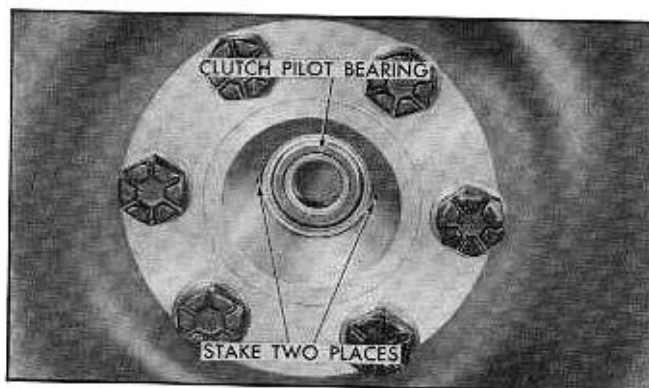

Fig. 6-36 Staking to Retain Clutch Pilot Bearing
3. If clutch pilot bearing is to be replaced, use cold chisel to remove staking in end of crankshaft which keeps bearing in place when transmission is removed (Fig. 6-36). Remove clutch pilot bearing from hole in crankshaft.
If bearing is a snug fit in crankshaft, use puller J-4383 and Slide Hammer J-2619-A or J-942 to remove bearing. When installing new bearing see that hole in crankshaft is thoroughly clean. Install new bearing with shielded side toward transmission. Start bearing into hole and tap into place by using Clutch Pilot Bearing Installer J-5736 against outer race. Stake slightly as shown in Fig. 6-36, to keep bearing in place in case transmission is removed in the future.